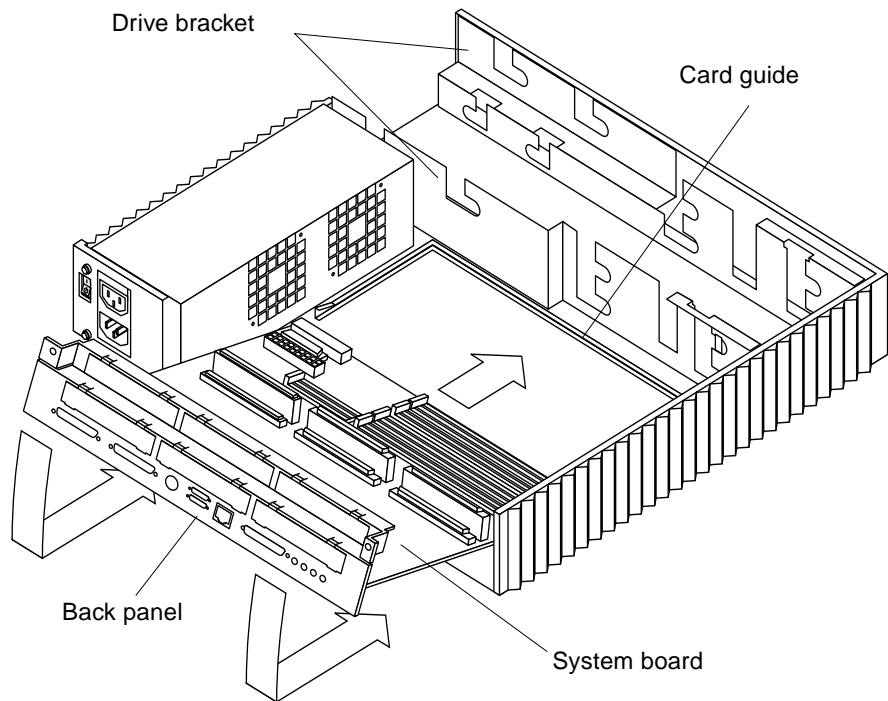

FIGURE 11-40 Installing the System Board
2. Lift the back edge of the system board slightly, ensuring that the foot on the underside of the system board does not catch the metal edge of the chassis (FIGURE 11-40).